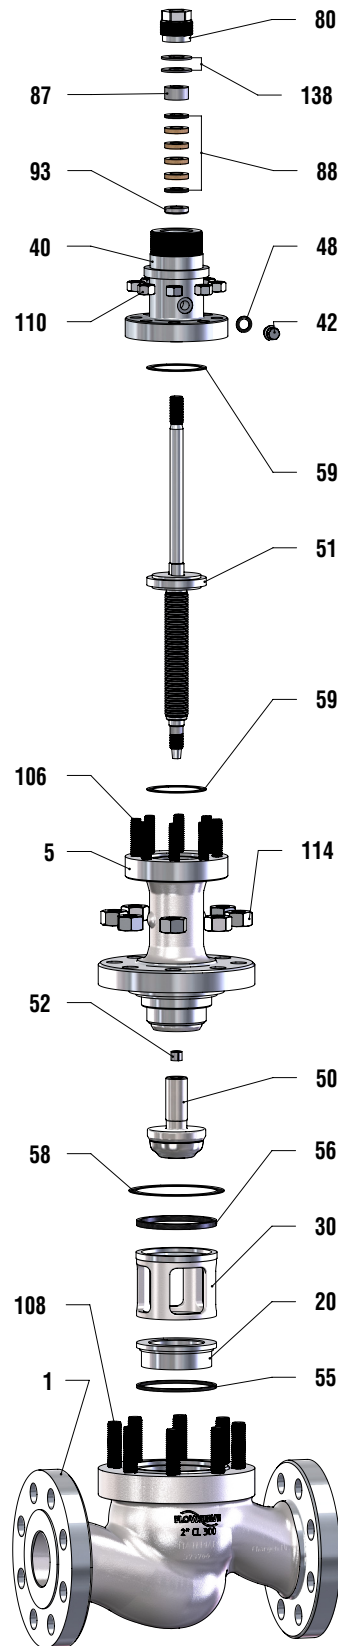

Figure 11: Disassemble / Reassemble the valve with bellows seal assembly for type A designs (Valve parts see Table 13, Page 17)
1. Turn the bonnet nuts (114) counter clockwise to loosen (See Figure 11: Disassemble / Reassemble the valve with bellows seal bonnet type A).
2. Turn the packing follower (80) counter clockwise to loosen.
3. Remove the Belleville springs (138).
- Remove the upper stem guide (87).
- Place the Ring Nut Tool clockwise (See Section 16: Special Tools) on the stem (51) and turn slowly.